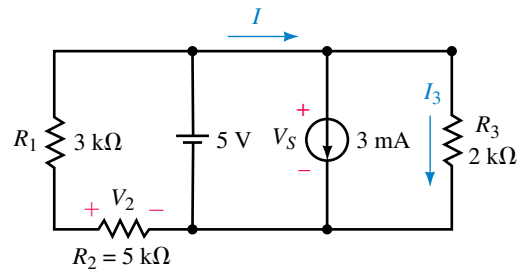

FIGURE 8-67
4. Consider the circuit of Figure 8-67: